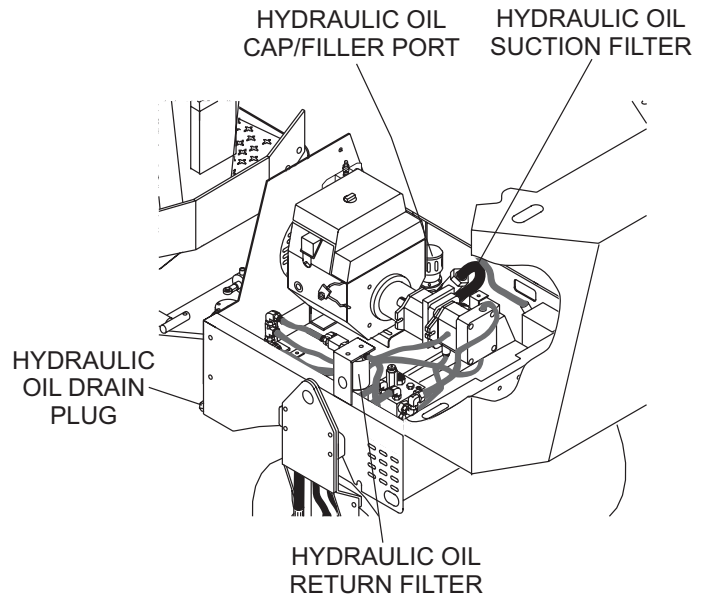

Figure 26. Hydraulic Filter Locations
The **suction filter** (Figure 26) is located inside the hydraulic tank. This filter is attached to the fitting connected to the hydraulic pump suction hose.
The **return filter** (Figure 26) is located at the front of the engine compartment. Replace both filters according to the Table 5.
2. Remove the **hydraulic oil drain plug** (Figure 26) and drain the hydraulic oil. Dispose of the used oil in an environmentally friendly manner. Replace the drain plug and tighten.